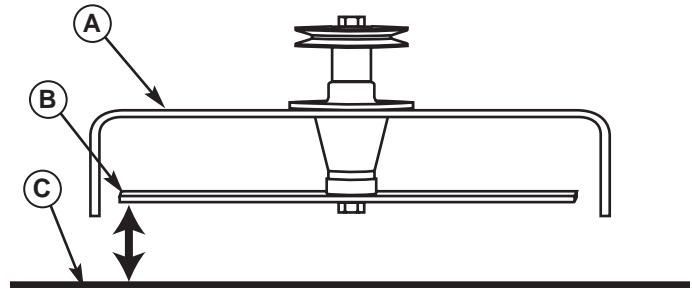

Figure 35. Measure Blade Tips to Ground
5. Measure the distance between the tips of the outside blades and the ground (Figures 35 & 36). If there is more than 1/8" (3mm) difference between the measurements on each side, proceed to step 6. If the difference is 1/8" (3mm) or less, proceed to Front To Back Leveling.